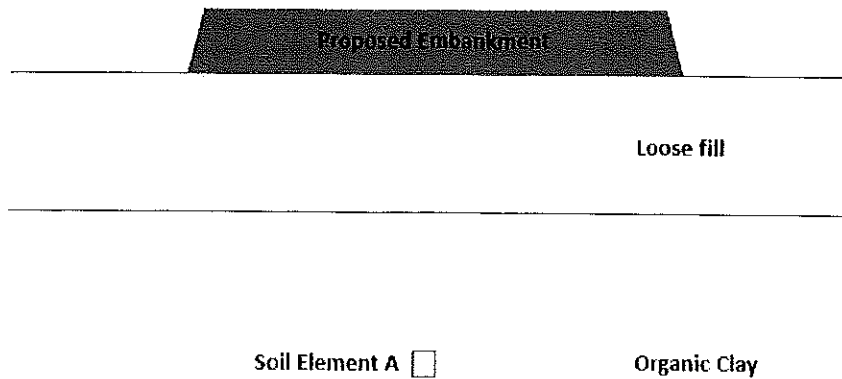

Figure Q4
- Figure Q4 shows the existing soil profile under a proposed road embankment construction. It is required to assess the stability of organic clay under the application of the additional load due to the proposed construction and you are required to make decisions on the assessment.